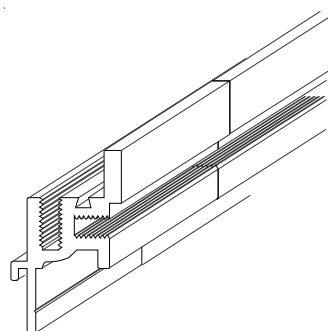

Figure 9
STEP 3. Abut the mating sections of the frame together as tightly as possible (see Figure 9). Ensure that the system is level, even, the proper width, flush with the finished floor, and properly aligned.